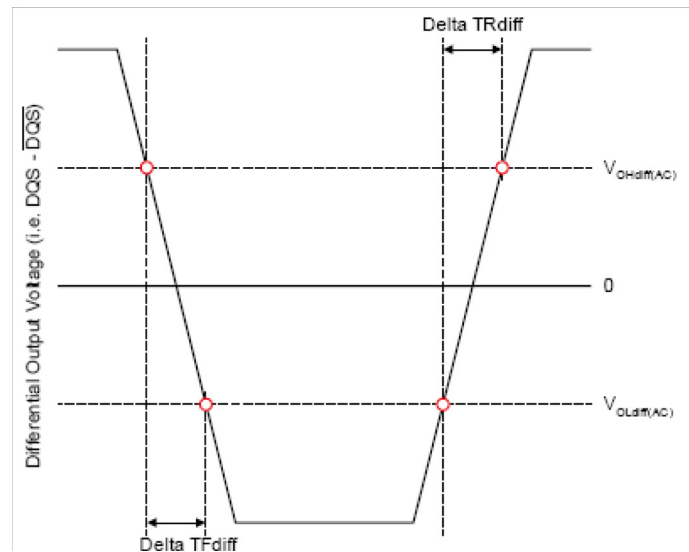

Figure 20 — Differential Output Slew Rate Definition
With the reference load for timing measurements, output slew rate for falling and rising edges is defined and measured between VOLdiff(AC) and VOHdiff(AC) for differential signals as shown in Table 41 and Figure 20.